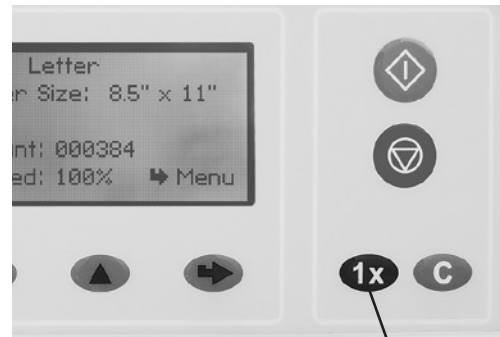

Fig. 9 Test Button
10. Press the "1x" button on the control panel to test and check the folds. (Fig 9).